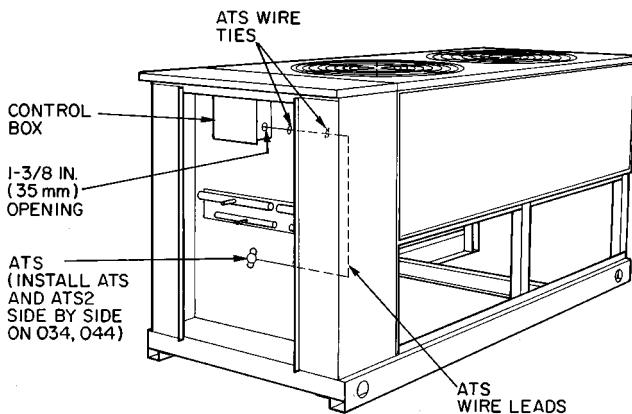

Fig. 1 — Model 09DK (028 Shown)
- Remove unit control box cover. See Fig. 1.
- 09DK020-028 Units:* Mount temperature actuated switch (ATS) onto the bottom inner divider panel of unit, using two #6AB x 1/2-in. long screws provided. Screw holes are predrilled in panel. See Fig. 1.
09DK034,044 Units: Mount temperature actuated switches (ATS and ATS2) onto the bottom inner divider panel of unit, using four #6AB x 1/2-in. long screws provided (2 screws for each switch). Mount switches side by side in predrilled holes. See Fig. 1.
- Route the wire leads of ATS around the coil, keeping them away from the coil and any sharp metal edges. Install wire ties provided through predrilled holes in upper divider panel. See Fig. 1. Run ATS wire leads through wire ties, then into the 1 3/8-in. (35 mm) diameter control box opening.